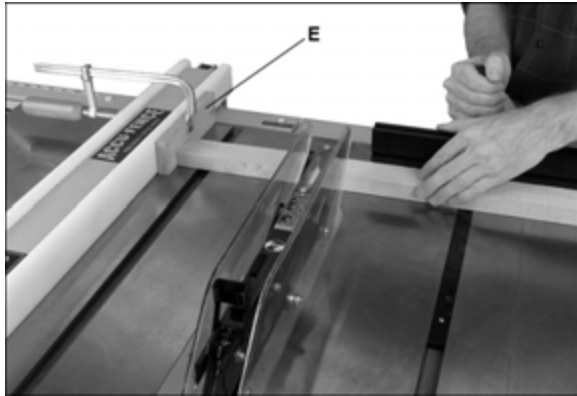

Figure 9-8
- ❑ Do not use miter gauge and rip fence in the same operation unless provision is made by use of a facing board on the fence, to allow the cutoff section of workpiece to come free before the actual cut begins (See Figure 9-8).
Crosscutting should **never** be done freehand, nor should the fence be used as an end stop unless an auxiliary block (E, Figure 9-8) is clamped to the front